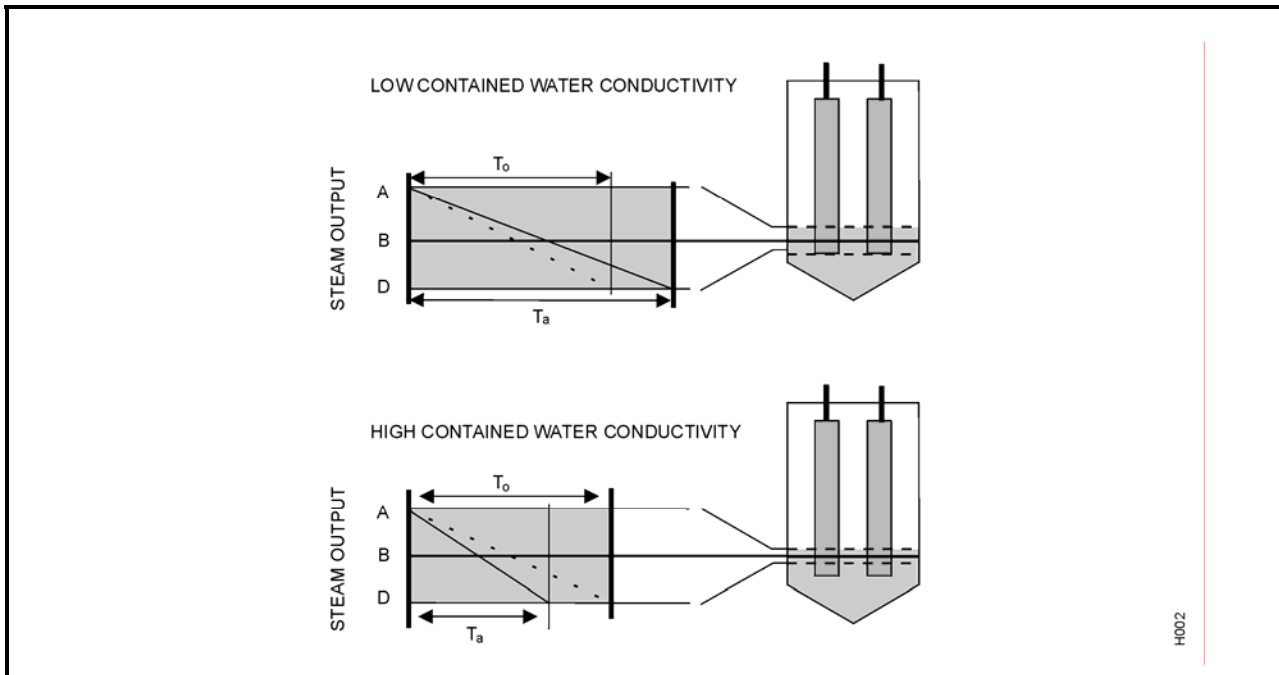

Figure 3. Conductivity
- (5) Whenever the conductivity in the cylinder water is lower than the designed conductivity, the (T_a) (time actual) to boil down from A to D will be longer than the T_o . (See Figure 3.)
- (6) As the water is boiled away, the minerals left behind increase the conductivity of the water in the cylinder. As soon as the conductivity is greater than design, the T_a to boil from A to D will be shorter than T_o and a drain cycle is initiated.
- (7) The fill valve always opens during timer drains, adding cold water to mix with the hot water from the cylinder during automatic drain cycles. This tempering process is required to meet plumbing codes.